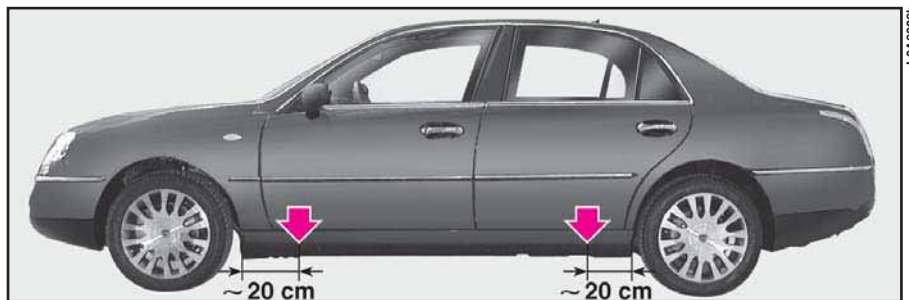

fig. 12
13) Position the jack under the car near the wheel to be replaced in the point shown on the panelling at approximately 20 cm from the fender edge, as shown in (fig. 12).